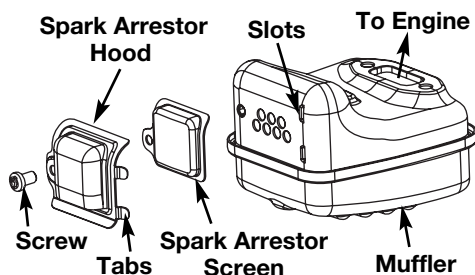

Fig. 19
6. Place the spark arrester plate on top of the spark arrester screen with the raised side up and the opening facing toward the engine (Fig. 19)
7. Place the spark arrester hood on top of the spark arrester plate with the “raised” side up and the opening facing AWAY from the engine (Fig. 19). Verify that the exhaust will be directed AWAY from the engine.
2. Locate the muffler, **but do not remove it.** Find the screw on the bottom of the muffler (Fig. 19). This screw holds the Spark Arrester Hood Assembly and the spark arrester screen to the bottom of the muffler. Remove this screw using either a Torx T20 or flat blade screwdriver.